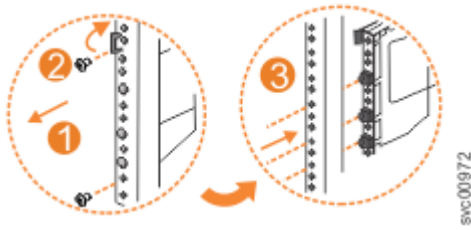

Figure 96. Remove the rail assembly from the front frame bracket
1. Remove the two screws that attach the outer rail section to the front bracket assembly, as shown in Figure 96 on page 148.
2. Remove the rail section by pulling it away from the front bracket, as shown in Figure 96 on page 148.